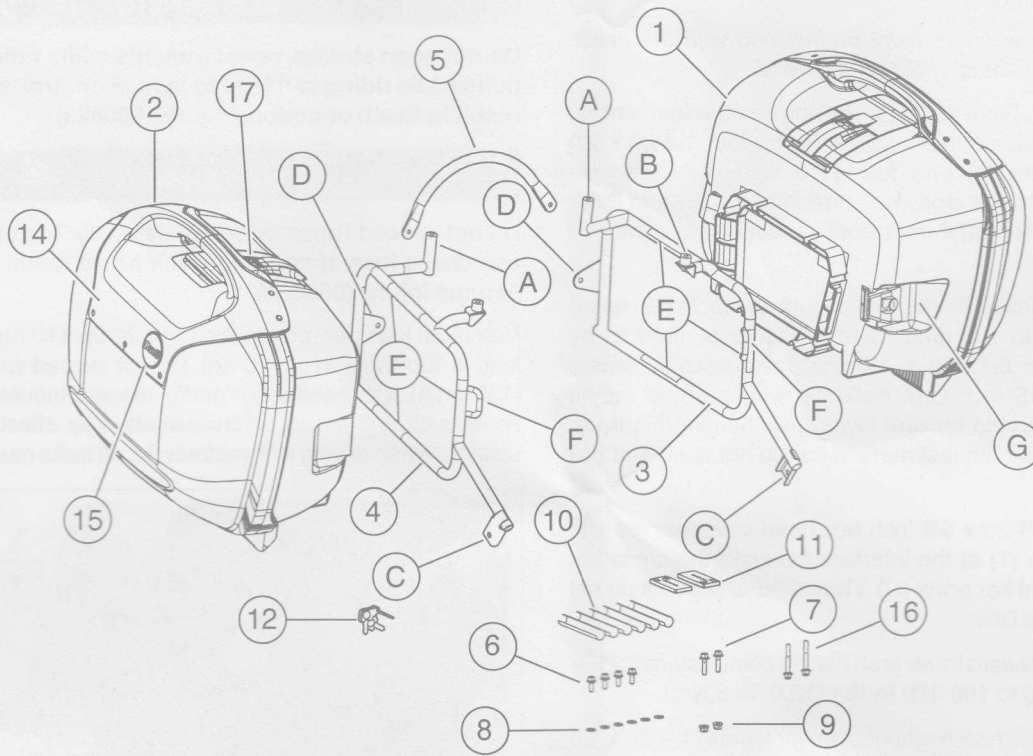

Figure 6. Service Parts: Ulysses Sidecase
See Figure 6 and Table 1, Figure 7 and Table 2.
1. See Figure 6. Insert a 1/4-20 x 5/8 inch hex head fastener (6) and a 1/4 inch lockwasher (8) through the lower forward mount of the bracket (C) and into the mount point behind the passenger foot peg bracket. Keep fastener loose at this time.
4. See Figure 6. Starting with the left sidecase bracket (3), insert a 1/4-20 x 2.0 inch hex head fastener (16) and a 1/4 inch lock washer (8) through the upper rear mount of the bracket (A) and into the forward mounting point of the license plate bracket. Hand tighten fastener at this time.
5. Insert a 1/4-20 x 1.0 inch hex head fastener (7) and a 1/4 inch lockwasher (8) through the upper front mount of the bracket (B) and into the left side trunk pan mounting point. Hand tighten fastener at this time.